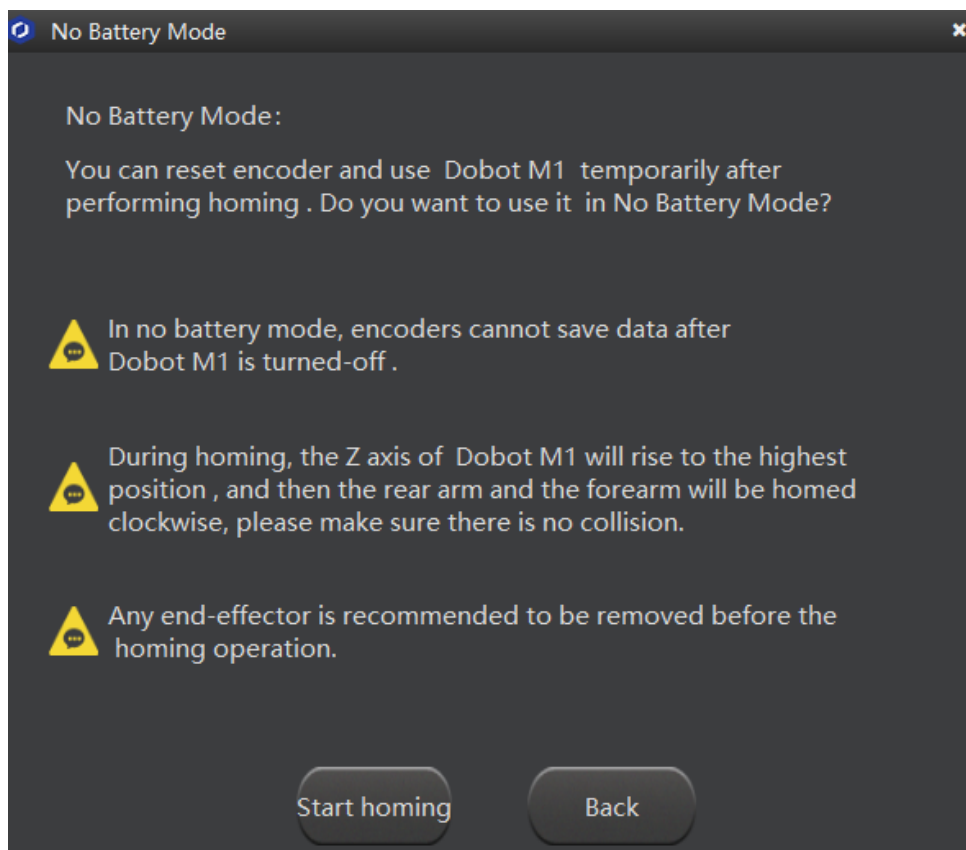

Figure 7.4 No battery mode page
- Step 1** Click **Temporary use (Not Recommended)** on the **Alarm: Battery Low** page. The **No Battery Mode** page is displayed, as shown in Figure 7.4.